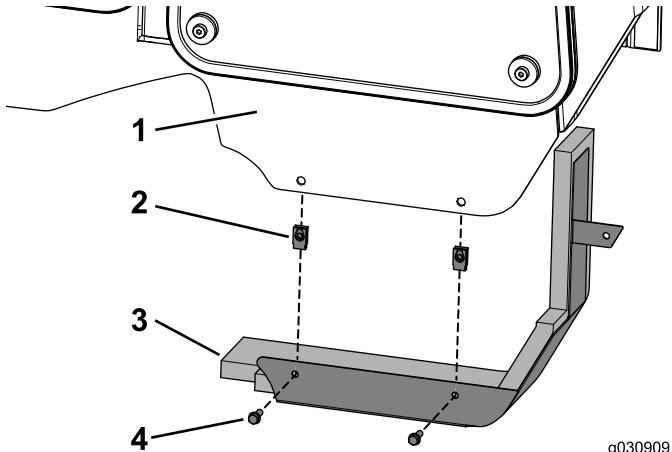

Figure 29
1. Install the 2 clip nuts onto the cab frame (Figure 29).
2. Secure the panel assembly to the cab using the 2 bolts (1/4 x 3/4 inch) as shown in Figure 29.